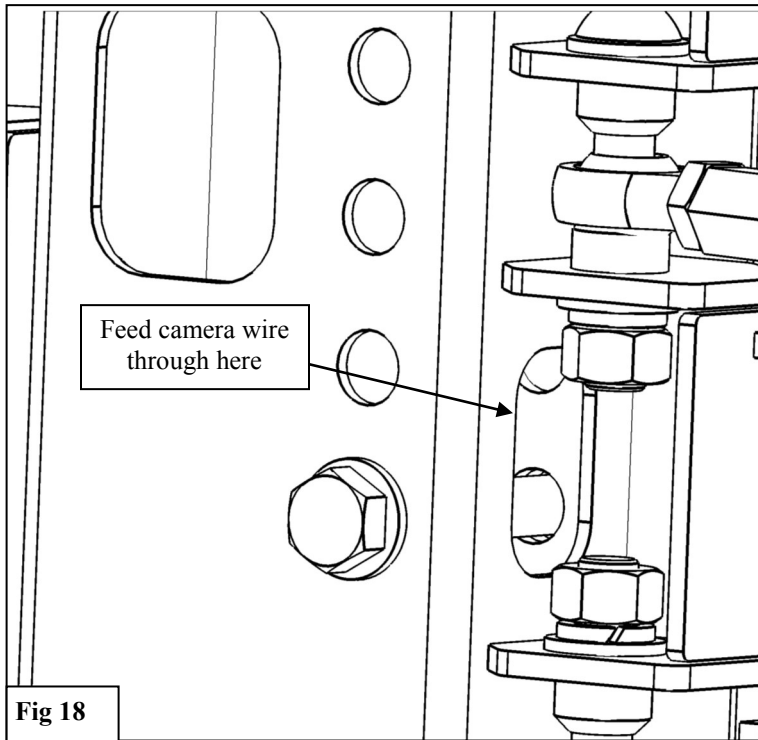

Fig 18
22. Before mounting the rear view camera, use the supplied Corrugated Sleeve (39) to wrap the areas of the wire inside the tire carrier. *Note: The wire can be fed through the access hole in the Tire Carrier (1). See Figure 18.*